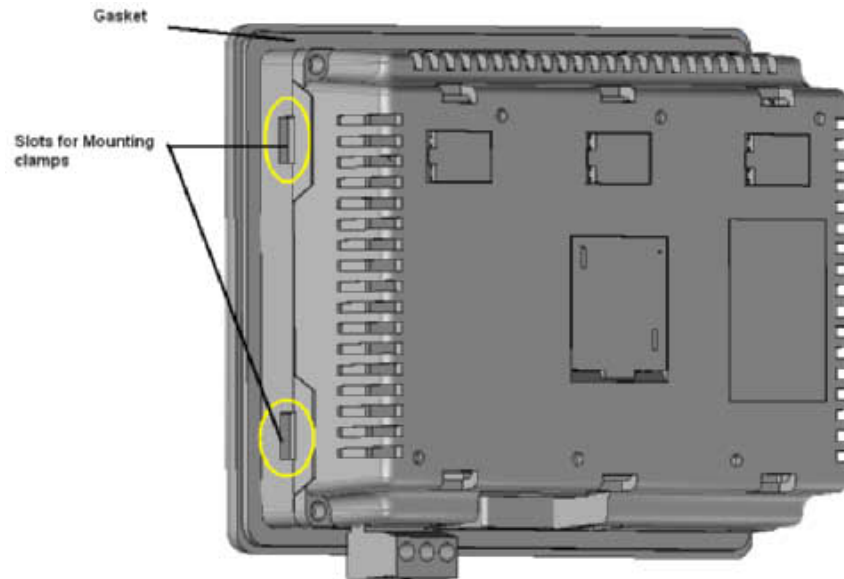

Figure 3.2: NQ-Series with gasket and mounting clamp slots
Use the delivered mounting set for proper installation. After the preparation of the panel, the NQ-Series can be mounted using the supplied clamps. The NQ-Series comes with a gasket pre-installed behind the bezel, as shown in Figure 3.2: NQ-Series with gasket and mounting clamp slots.
- 1 Locate the four mounting clamp slots in the case of the NQ-Series. The NQ3 models have their slots located at the side surfaces of the case (as shown in Figure 3.2: NQ-Series with gasket and mounting clamp slots). The slots of the NQ5 models are located at the top and bottom surfaces of the case.